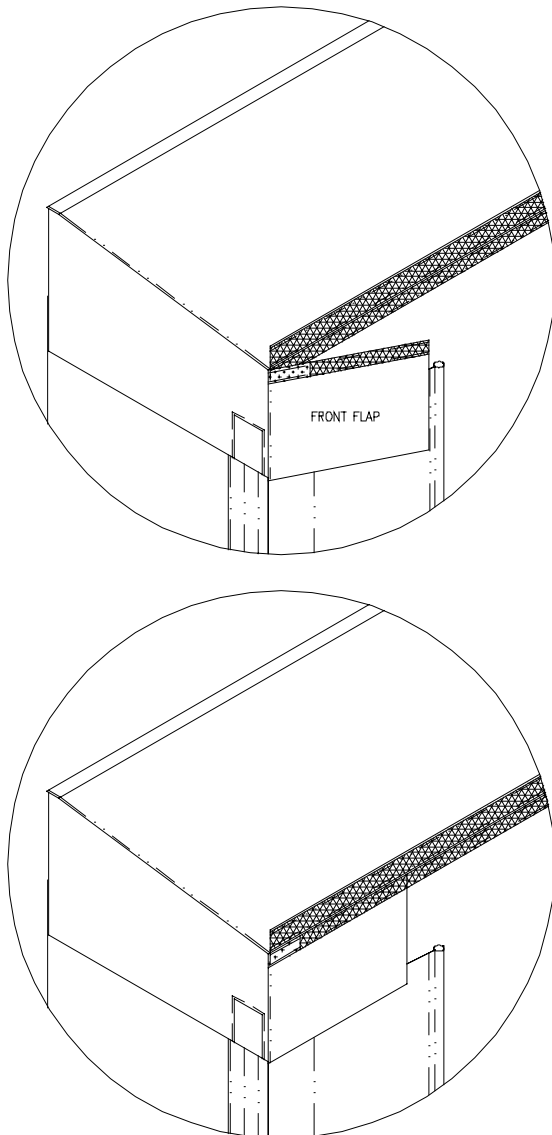

FIGURE 6
15. Finally, wrap the end caps front flaps onto the front bar hook and loop. (See Figure 6) Align edge on end cap to top edge of the front bar itself. Do not align to hook and loop. Also, do not pull end cap tightly around corner. Allow the end cap to wrap corner loosely. This allows the header to flex and proper movement of side members relative to header during normal operation. (See Figure 6)
8. Finally, wrap the end cap front flap onto the front bar of header assembly at the same time attaching it to the endcap flap hook and loop located at the top, front face of the side curtain. (See Figure 6 & 8) Align edge on end cap to top edge of the front bar itself. Do not align to hook and loop. Also, do not pull end cap tightly around corner. Allow the end cap to wrap corner loosely. This allows the header to flex and proper movement of side members relative to header during normal operation. For common member units, the endcap front face attaches to side frame via the hook and loop on the top, front face of the side curtain while on standard units it is attached to hook and loop on the side.